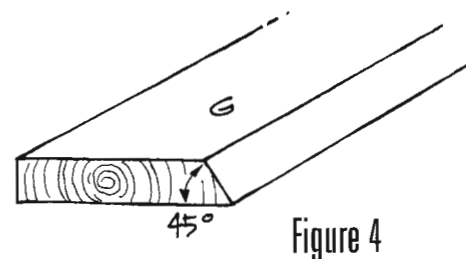

Figure 4
2. Cut eight vertical trim pieces (G) from 1 x 4 pine, each 19 inches long.
3. Set your saw blade to cut at 45 degrees off vertical, and bevel one 19-inch-long edge of each of the eight vertical trim pieces (G) as shown in *Figure 4*.